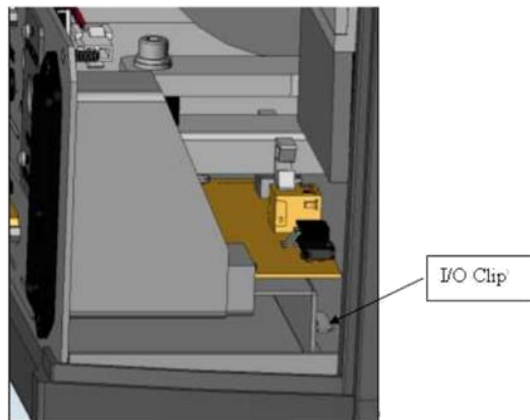

Figure 5: I/O Clip
10. Slide the I/O assembly into the leak detector and ensure that the I/O bracket engages the clip at the base of the leak detector (“Figure 5: I/O Clip”).